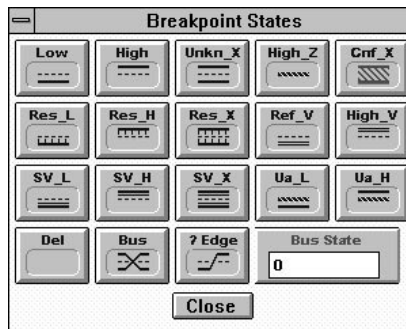

Figure 6-3. Breakpoint States Window
3. Click on the **States...** button. ACTIVE-CAD displays the **Breakpoint States** window (Figure 6-3), which you will use to assign logical states to the signals you have selected. The signals will then be used to create breakpoint programs.